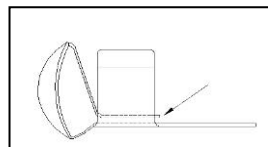

Figure 8.10A Lamp Socket Terminal
- 3:** Place the terminal over the wire by prying up the center "prong" and sliding the wire under, *see the arrow in Figure 8.10A*, then crimp. If the wire is not inserted under the prong, a proper crimp will be impossible to achieve.